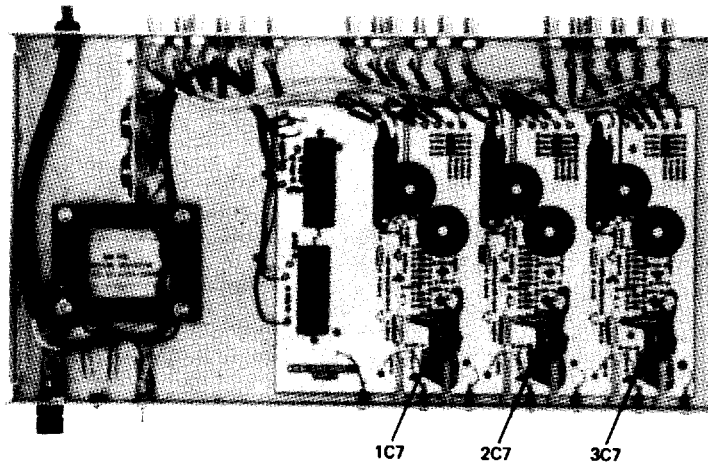

Figure 1. Top View, Video Distribution Amplifier
The output level for each of the three (3) separate channels is controlled by the front panel controls, see figure 1.